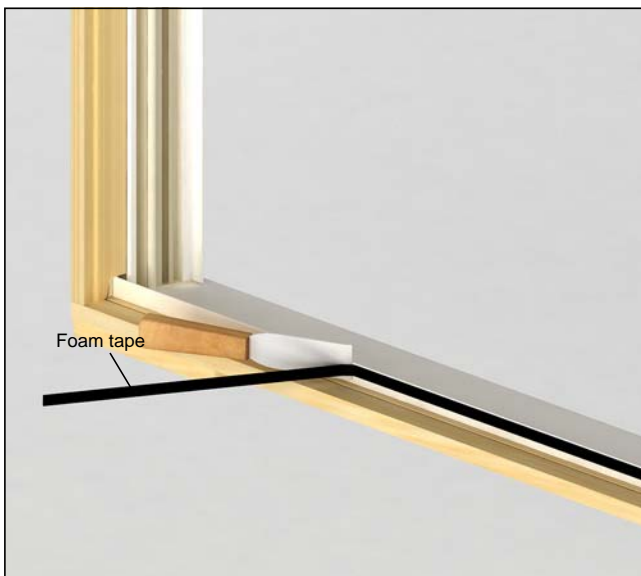

Figure 2
3. Carefully scrape the black foam tape off the sill dam. See figure 2.